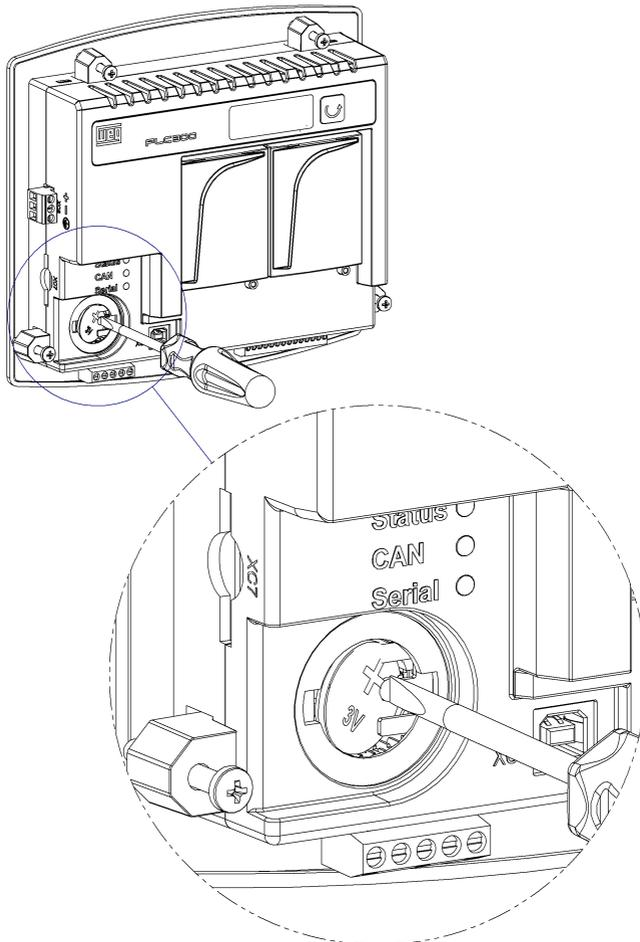

Figure 12.1: Removal of the old battery
2. With a small screwdriver or tweezers, press the Eject button, as in Figure 12.1 on page 12-1 below, and remove the old battery.